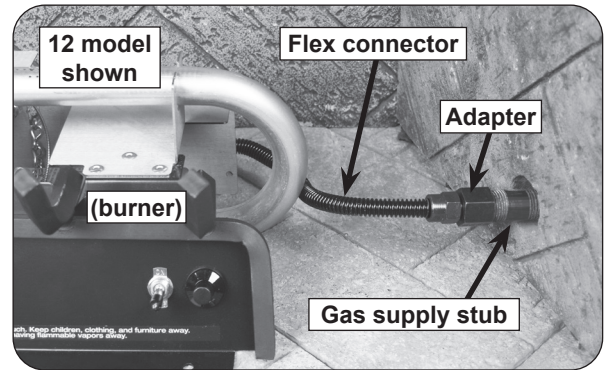

Fig. 17-1 Connect gas supply
2. Locate the gas-supply stub inside the fireplace and remove the cap, if attached (reference Fig. 17-1).
4. **Be sure gas to the fireplace is off.** Remove the adapter connected to the flex connector (pre-installed on the burner system). Attach the adapter to the gas-supply stub using a pipe compound resistant to all gasses. Tighten securely. Then attach the open end of the flex connector to the adapter. Tighten securely. See Fig. 17-1.